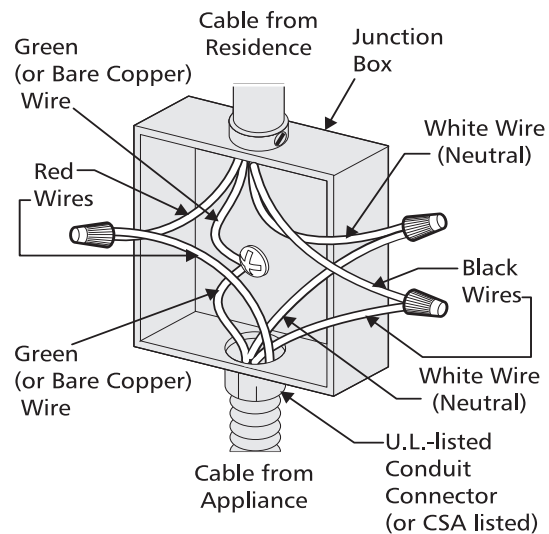

Figure 3 – 4-Wire Electrical System
When connecting to a 4-wire electrical system, when installing in a mobile home, or when local codes DO NOT permit connecting the cabinet-grounding conductor to the neutral (white) junction box wire (see Figure 3)
3. In the circuit breaker, fuse box or junction box: connect appliance and residence cable wires as shown in figure 3.